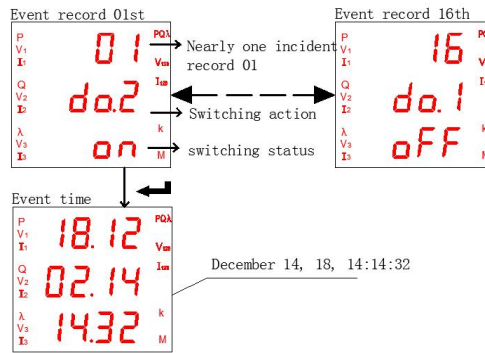

Figure 15
5.2.2 The steps to view the event record of DEMP-AC3-DXX-E are shown in Figure 15.